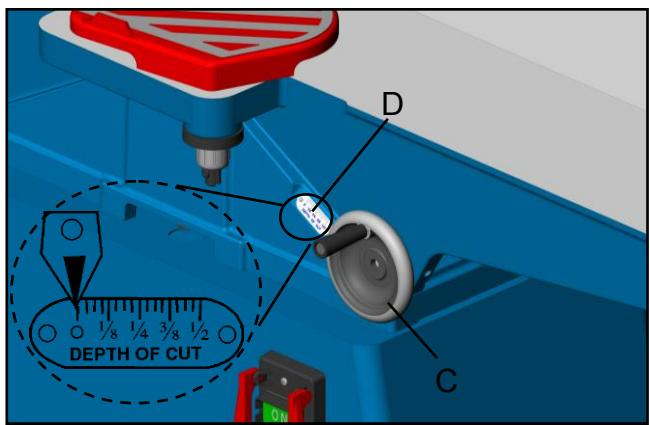

Fig. 9
3. Use handwheel (C, Fig.9) to adjust infeed table height to the desired depth of cut and then release the 1/8" depth stop lockpin (B) and retighten lock knob (A) to secure the infeed table in position and lock the handwheel.